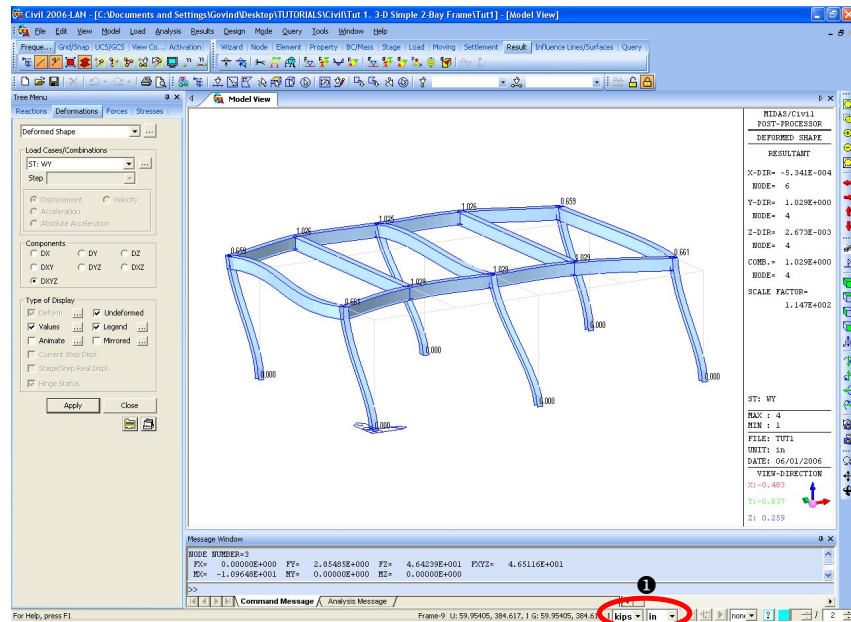

Figure 1.27 Deformed Shape (Scale Factor = 5.0)
5. Click  in the unit conversion button at the bottom of the window (Fig.1.27–1) and select “**in**”.